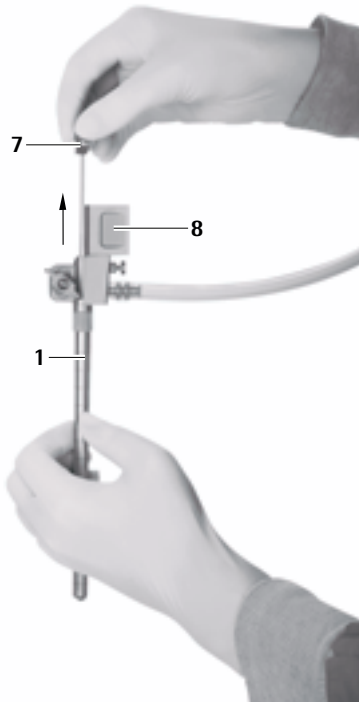

Fig. 9
- Remove obturator for the oval working channel 7 carefully from the MINOP inVent trocar 1, see Fig. 9.